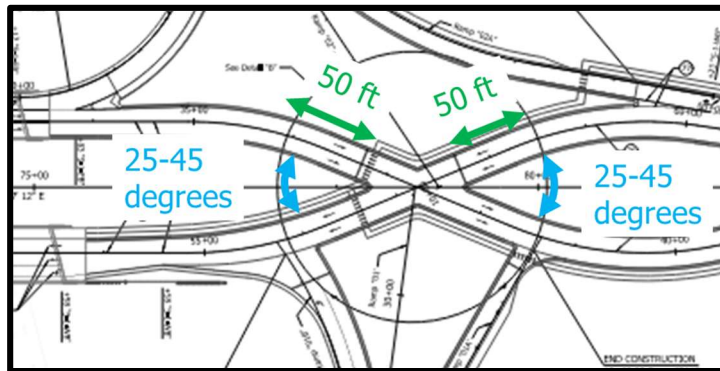

Figure 4. Ideal crossover intersection geometrics.
- The smaller angle at the crossover intersection should be between 25° and 45° (See Figure 4 for ideal intersection layout).